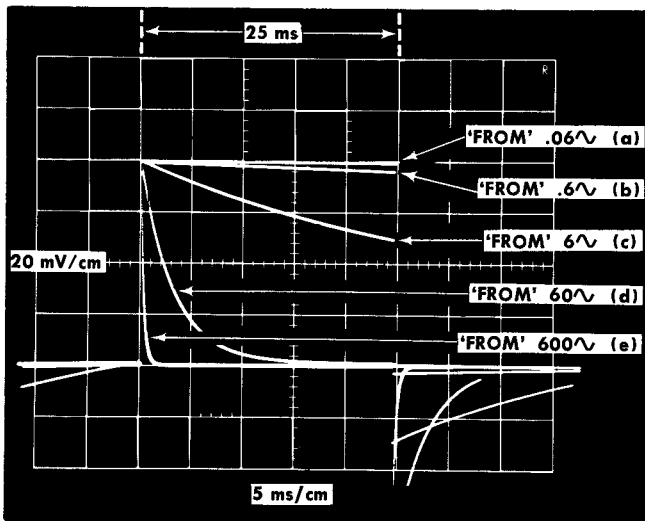

Fig. 5-6. Multiple exposure photograph showing decay characteristics for FREQ RESPONSE 'FROM' switch positions .06 V through 600 V.
Requirement-Display of decays as shown in Fig. 5-6.
h. Adjust the Type 106 Square Wave Generator + Transition Amplitude for approximately 4 cm of vertical display. See Fig. 5-6, waveform A.
i. Adjust the Type 106 Square Wave Generator Repetition Rate Multiplier for 5 cm of horizontal display. See Fig. 5-6, waveform A.
k. Observe the displayed waveform. Check for similarity to waveform B in Fig. 5-6.
l. Switch through the FREQ RESPONSE FROM switch position 6 V, 60 V and 600 V and check the displayed waveform against waveforms C, D and E, respectively, Fig. 5-6, for low frequency response characteristics. Use the Type 2A61 POSITION control to position the start of the transition to the same point on the graticule for each step.